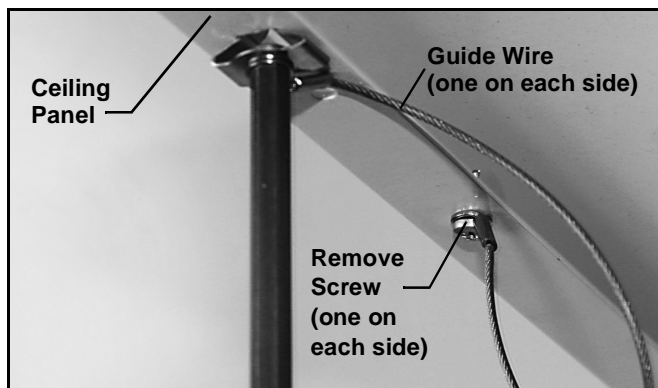

Figure 5
1. Remove and save screws attaching guide wires to ceiling panel. (See Figure 5)